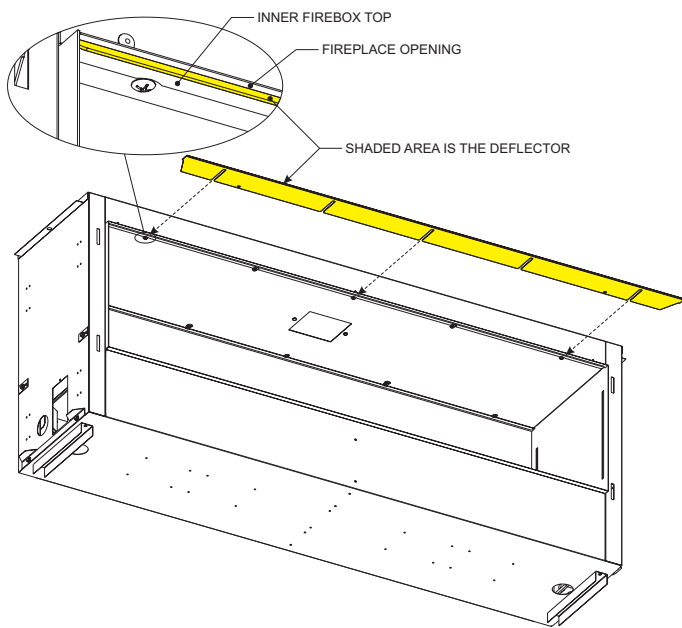

Figure 21
If installing an optional **Inner Top Deflector**, loosen the (5) Phillips head screws securing the inner firebox top. **(See Figure 21)** Do not unscrew screws completely. Do not remove all 10 screws.
FOR FIGURES 21 & 22